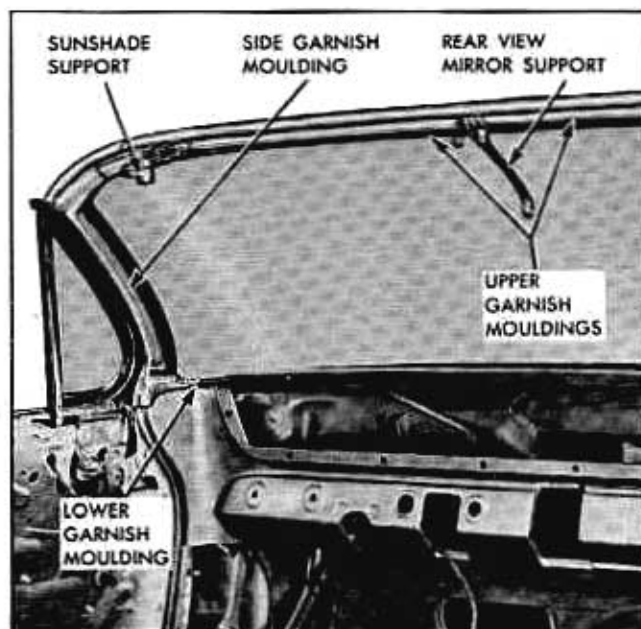
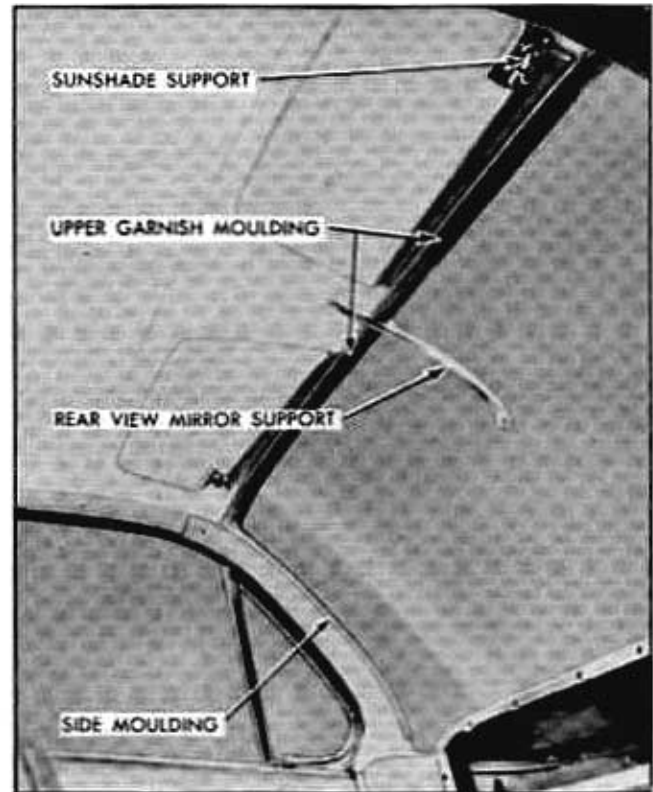

Fig. 1-1 Windshield Garnish Moldings
Fig. 1-2 Windshield Garnish Moldings
3. To install, reverse above procedures (Fig. 1-1), (Fig. 1-2).